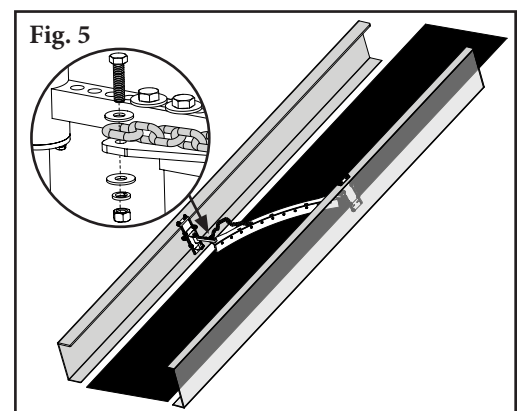

Fig. 5
5. **Install safety chain.** Using the safety chain kit provided, bolt the chain to the blade frame and then to the structure, ensuring the chain does not hang down or interfere with any moving parts of the plow or conveyor system (Fig. 5).